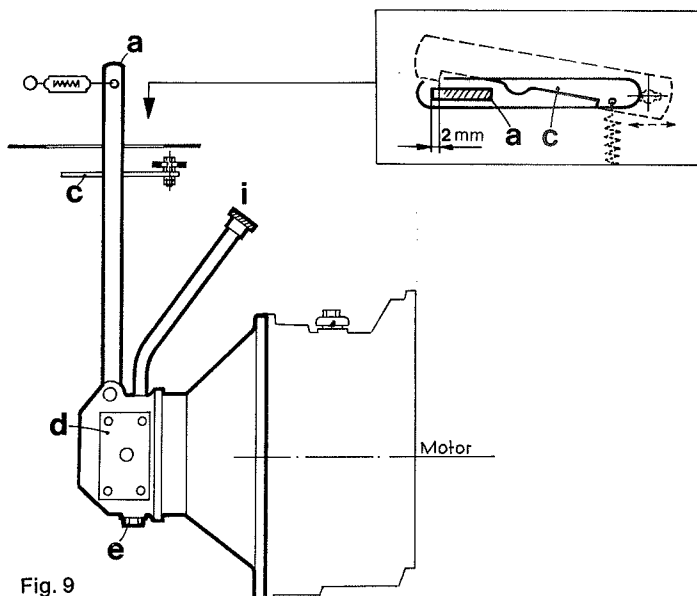

Fig. 9
Clutch engagement: The P.T.O. clutch lever **30** should be engaged like the foot operated clutch pedal, i.e. pull **at low engine speed slowly** towards the rear. If the pressure required to engage the P.T.O. clutch lever falls below 4,5 kg, the P.T.O. clutch must be adjusted (see page 60, fig. 9).
P.T.O. clutch (Fig. 9)